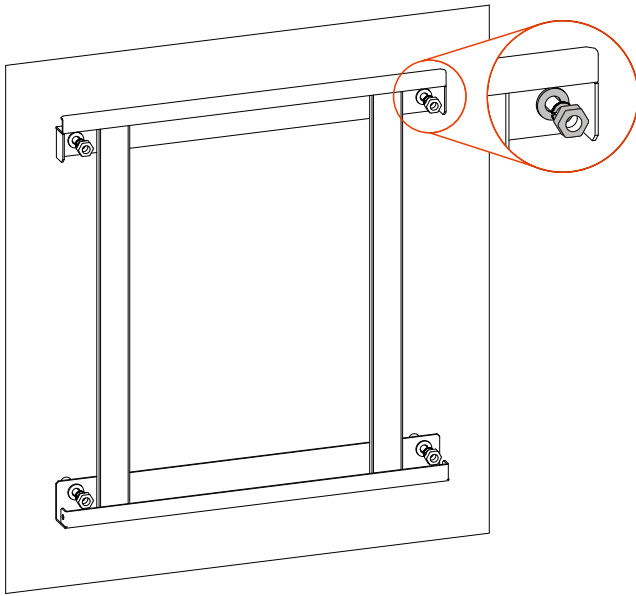

Figure3-6 Fix the installation holder on the wall
- Step 4 As shown in Figure3-6, put the installation holder in the prepared expansion bolts with the flat washer, spring washer and nut and fasten nuts clockwise by wrench to fix the installation holder on the wall.